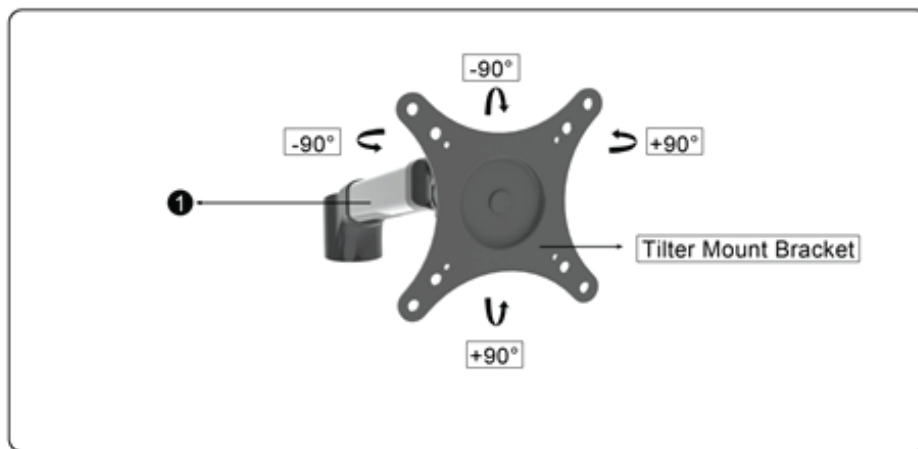

Figure 10
1. Ensure VESA Bracket on the LCD Arm (1) is able to swivel and tilt easily. (Figure 10)